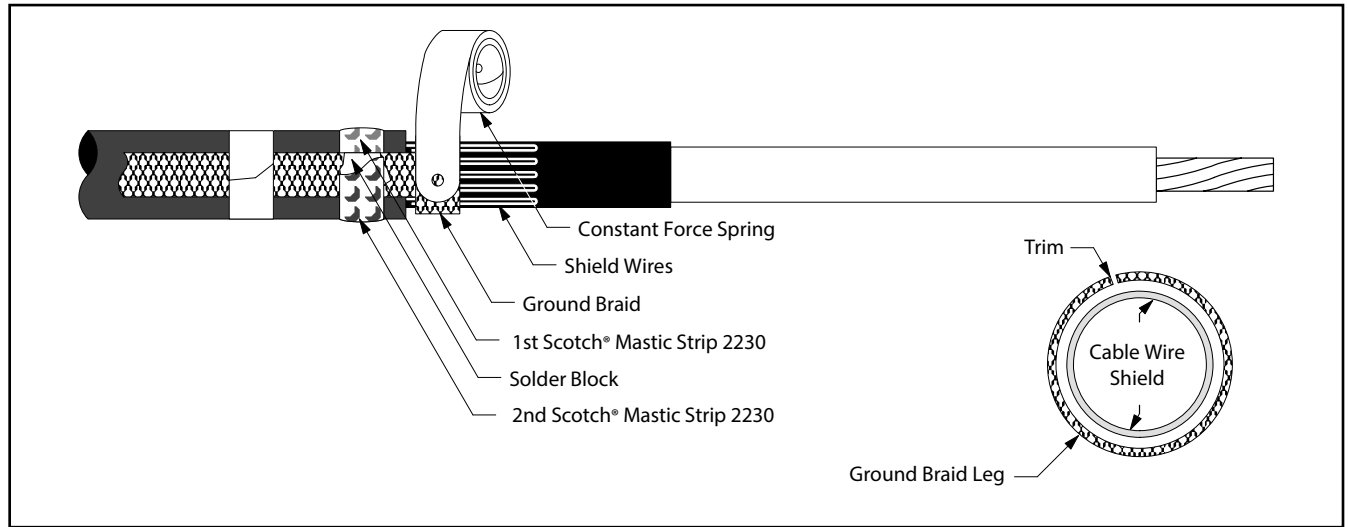

Figure 12
- 8.3 Wrap ground braid around cable shield wires one complete wrap, trim excess to prevent overlap and secure in place with constant force spring. Wrap spring in same direction as ground braid (Figure 12). Cinch (tighten) the spring after wrapping the final winding.
- 8.4 Select second Scotch® Mastic Strip 2230 from kit and remove white release liners. Apply a second **SINGLE WRAP** of mastic over solder block on ground braid and previously applied mastic (Figure 12). Cut off excess.